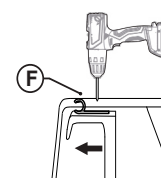

Figure VW2
- Drill 5 holes (4mm drill bit) evenly spaced through the aluminium rope track (F) and into the tub. **Refer Figure VW2. NOTE: First hole at each end of Rope Track to be 100mm distance inwards.**